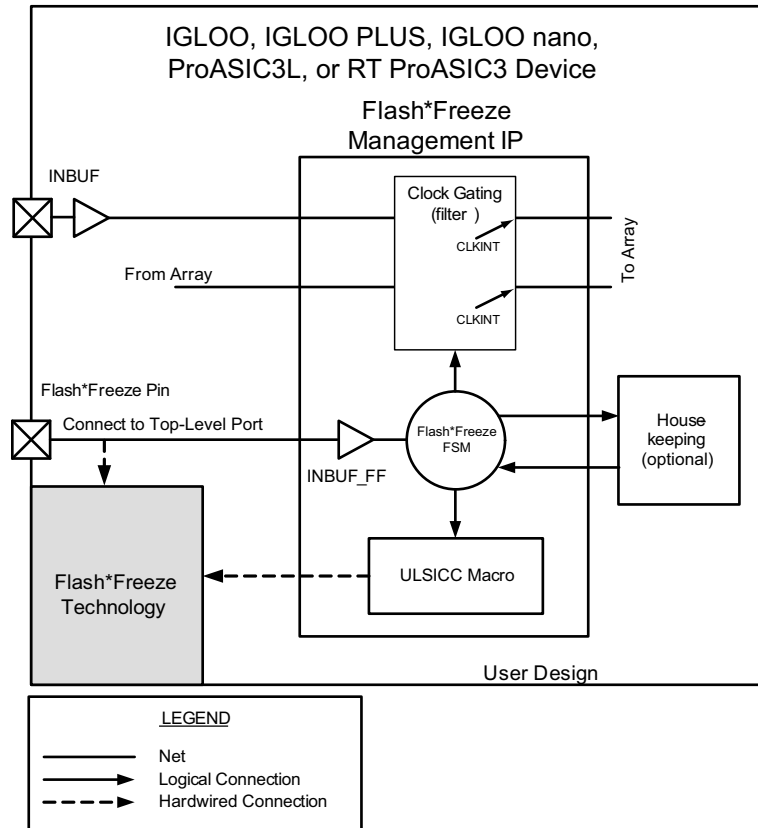

Figure 2-10 • Flash*Freeze Management IP Block Diagram
The Flash*Freeze management IP is comprised of three blocks: the Flash*Freeze finite state machine (FSM), the clock gating (filter) block, and the ULSICC macro, as shown in Figure 2-10.
- When the INBUF_FF macro is used, the FF pin will establish a hardwired connection to the Flash*Freeze technology circuit in the device, as shown in Figure 2-1 on page 25, Figure 2-3 on page 27, and Figure 2-10 on page 37, and described in the "Flash*Freeze Type 1: Control by Dedicated Flash*Freeze Pin" section on page 24.
The User Low Static ICC (ULSICC) macro allows the FPGA core to access the Flash*Freeze Technology block so that entering and exiting Flash*Freeze mode can be controlled by the user's design. The ULSICC macro enables a hard block with an available LSICC input port, as shown in Figure 2-3 on page 27 and Figure 2-10 on page 37. Design rules for the ULSICC macro are as follows: